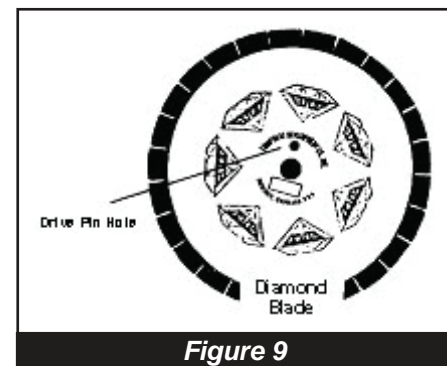

Figure 9
- Check diamond blades for cracks, loose segments and oversize, worn, or out-of-round arbor holes **(See Figure 5 on page 5)**. Do not use **any** questionable blade since serious injury and/or damage to property can result. Do not use warped, twisted, or out-of-balance blades. Unbalanced blades will wear excessively, vibrate and damage both arbor shaft and bearings. Do not use a blade without a drive pinhole **(Figure 9)**.
Inspect the blades before installing. Check diamond blades for cracks, loose segments and oversize, worn, or out-of-round arbor holes (*Figure 5 on page 5*). Do not use any questionable blade since serious personal injury and/or damage to property can result. Do not use warped, twisted, or out-of-balance blades. Unbalanced blades will wear excessively, vibrate and damage both arbor shaft and bearings. Do not use a blade without a drive pinhole (*Figure 9*).